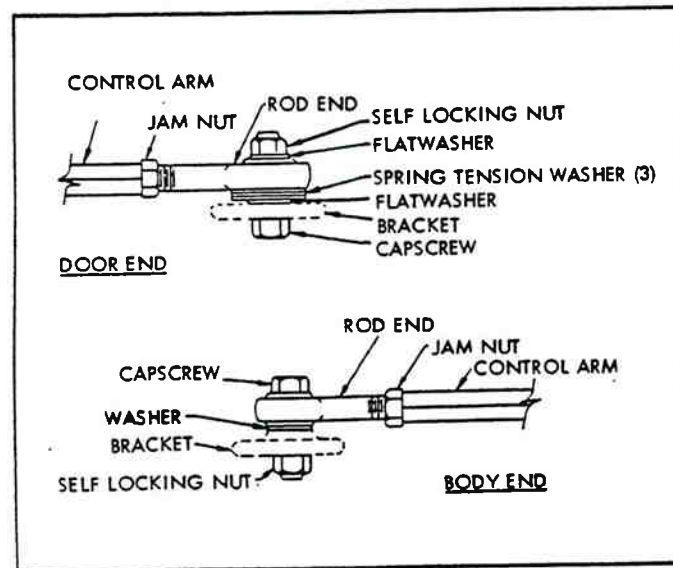

Figure 3-31. Installation-Control Arms.
2. Install rod assembly with bend to rear of coach. Both ends of rod are to be installed as shown in figure 3-31.